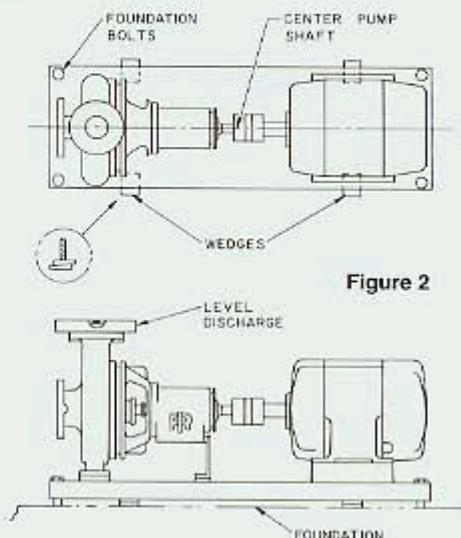

Figure 2
2. Place the unit on the foundation and level the baseplate by driving wedges, or shimming, at at least four points, two under the pump and two under the driver (Figure 2). Use a machinist's level on the discharge nozzle and plumb the suction nozzle to determine levelness. The bedplate should be between .50" (12mm) and 1.50" (38mm) above the foundation.